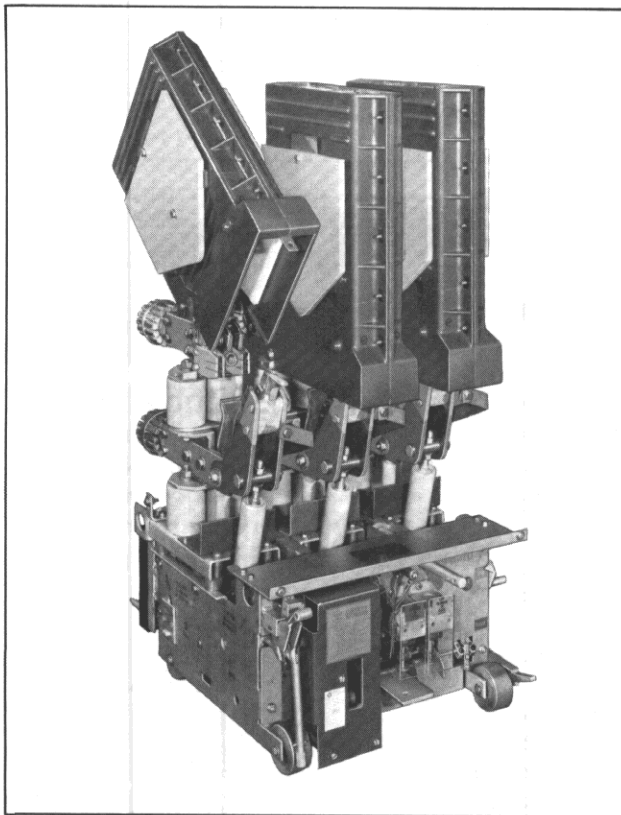

Fig. 49 *Tilt Arc Chute*
**TILT BACK ARC CHUTE (FIG. 49)**